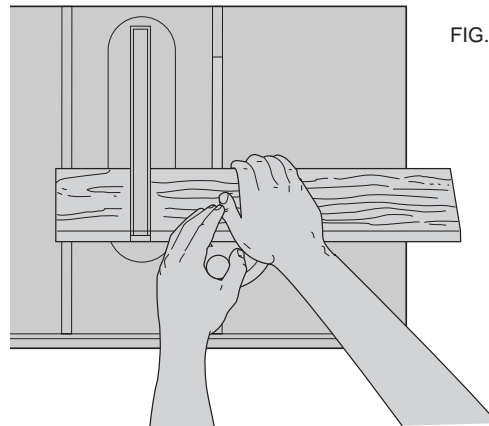

FIG. 23
5. While using both hands to keep the workpiece against the face of the miter gauge, and holding the workpiece flat against the table, slowly push the workpiece through the blade. See Figure 23.
This operation is the same as crosscutting except the miter gauge is locked at an angle other than 0°. Hold the workpiece **FIRMLY** against the miter gauge and feed the workpiece slowly into the blade (to prevent the workpiece from moving). See Figure 23.